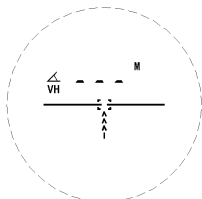
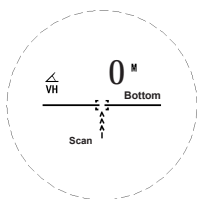
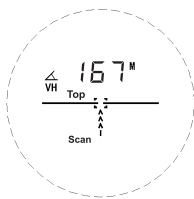

Fig. 8.2
Fig. 8.3
Fig. 8.4
- Press down the OPEN button. The lens will display the last mode selected when the Laser Range Finder shutdown. Keep pressing the MODE button till you reach the Altitude Difference Measurement Mode (see Fig. 8.2). Hold down the OPEN button until Bottom and Scan appears on the display (see Fig. 8.3). Aim the Laser Range Finder at the bottom (base) of your desired object. On identifying the bottom, 0 will appear on the display. Bottom will then disappear from the display and then Top will appear. With the OPEN button still held down, gradually move the Laser Range Finder to the top point of the object (see Fig. 8.4). At this point the Laser Range Finder will display the altitude difference/vertical height of the object and you can now release the OPEN button.